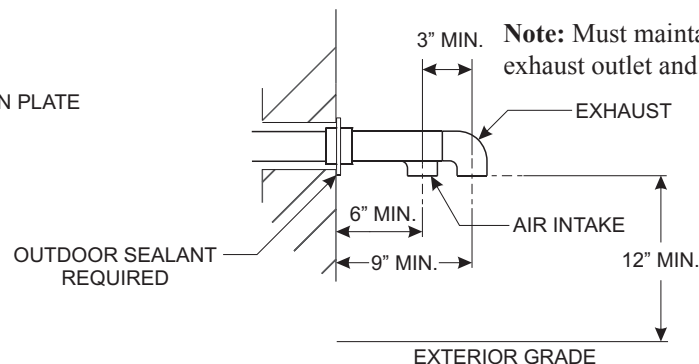

Figure 34
When installing a colinear horizontal, the minimum vent length protruding from the outside wall is 6" (15.2 cm) for air intake and 9" for exhaust. See Figure 34.
1. Attach plate to chimney chase or flat roof with four (4) screws. Use outdoor sealant to seal transition plate to the roof or chimney chase.
- See Figure 34, Page 25.